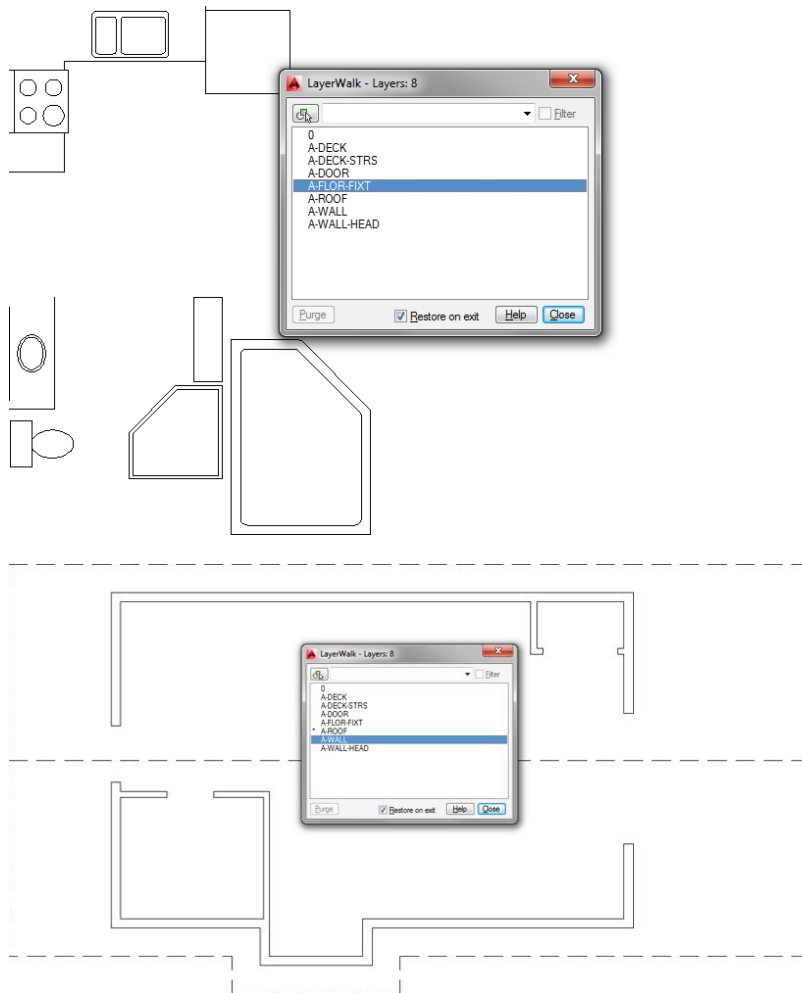

FIGURE 6.50: Displaying the contents of the A-FLOR-FIXT layer (top) and the A-WALL layer (bottom)
8. Use the up and down arrows to “walk” through the drawing's layers, verifying that the objects reside on the correct layers. The top of Figure 6.50 shows the cabin drawing with the A-FLO-FIXT layer selected.
If you double-click a layer name, that layer stays displayed even when it isn't highlighted, and an asterisk appears next to the layer name. Figure 6.50 (bottom) shows the cabin drawing with the A-ROOF layer selected and the A-WALL layer locked on.